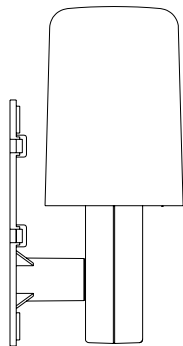

Figure 2
2. One TX8U remote temperature/humidity sensor (Figure 2).